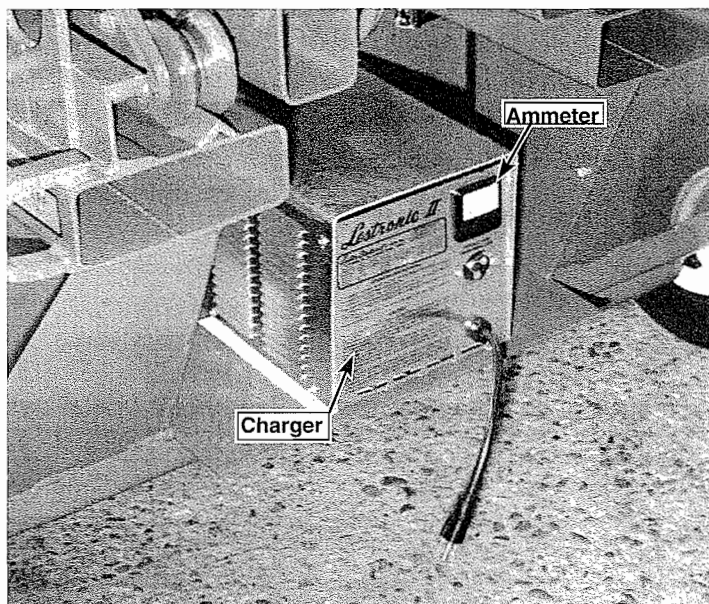

Figure 4-2: Battery Charger
**BATTERY CHARGING (See Figure 4-2)**